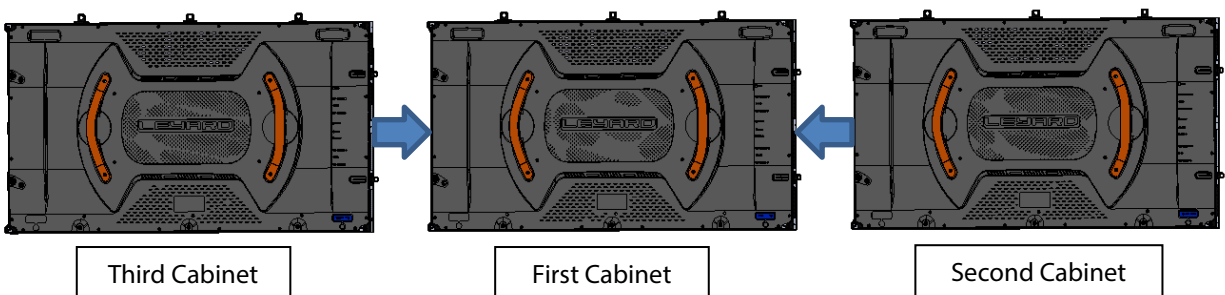

Figure 7. First install the center cabinet and then alternate installing additional cabinets right and left until the row is complete.
- Install cabinets from the first (center) cabinet and alternate right and left to fill out each row as shown in Figure 7.